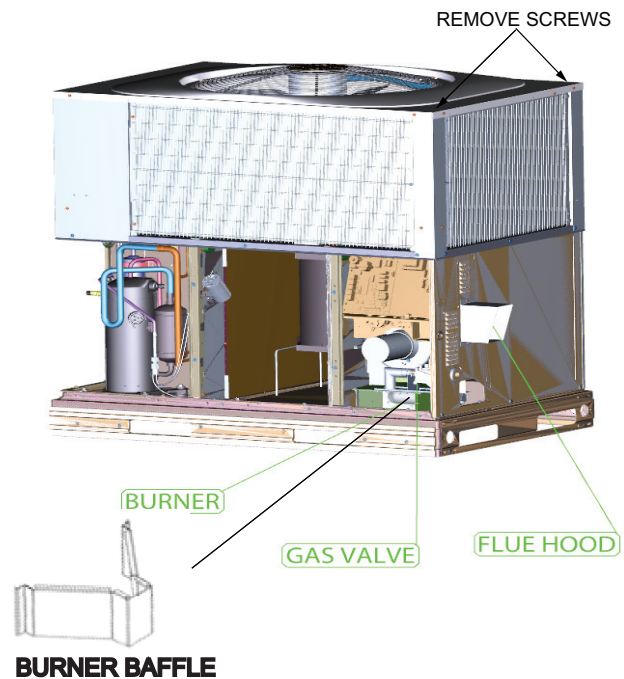

Fig. 20 – Blower Housing, Flue Collector Box and Burner Heat Exchanger Assembly (Ultra Low NOx)
3. Slide the assembly out of the unit. (See Fig. 20). Clean the blower wheel. If additional cleaning is required, continue with Steps 4 and 5.
2. Remove the 11 screws holding the flue collector box cover (See Fig. 20) to the heat exchanger assembly. Inspect the heat exchangers.
Unit is equipped with a direct spark ignition 100 percent lockout system. Ignition module (IGC) is located in the control box (See Fig. 20). Module contains a self-diagnostic LED. During servicing, refer to label diagram or Table 6 in these instructions for LED interpretation.
Ultra Low NOx Burner Baffle Inspection/Cleaning (See Fig. 20.)